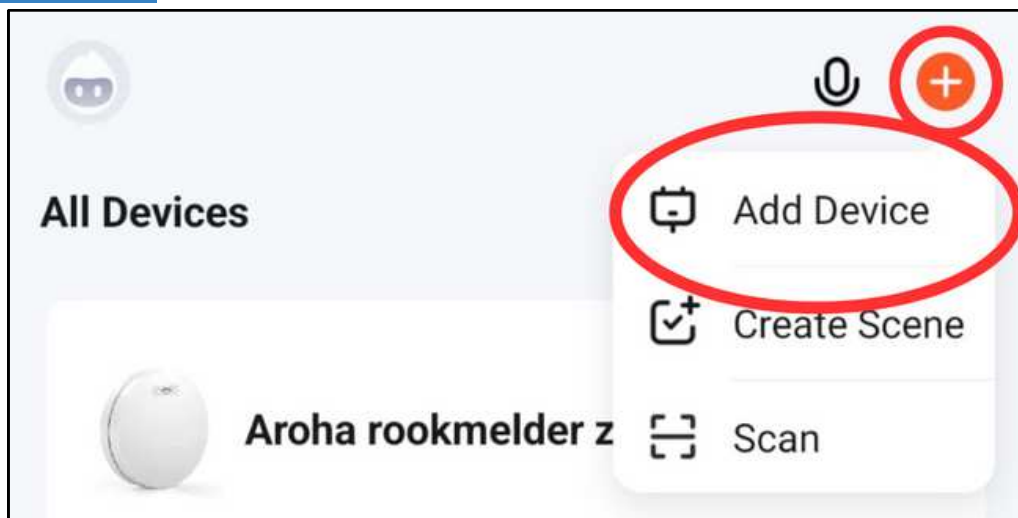

Figure 1: Add Device in app
5. Click on the “+” in the top right corner of the app home screen. Then choose “**Add device**”, as you see in Figure 1. The app will now automatically look for devices that are in pairing mode. Follow the steps as described in the app.